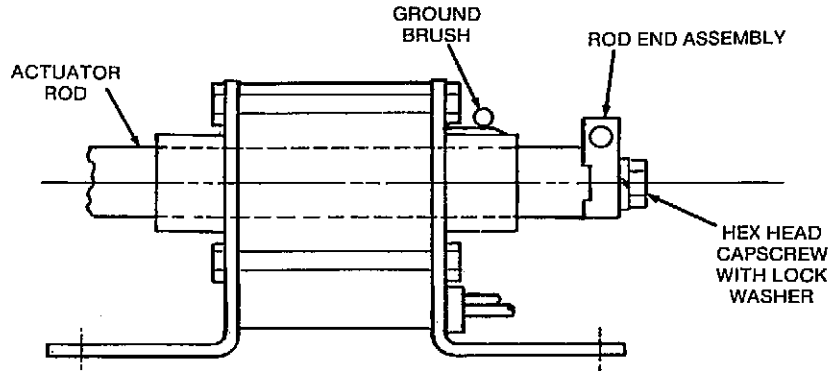

FIGURE 13. LINEAR ACTUATOR
8. Remove rod end assembly from actuator rod (see Figure 13) and slide rod out of the actuator.
1. Insert the actuator rod into the replacement actuator motor from the side opposite the ground brush (see Figure 13). Install the rod end assembly and tighten cap screw to 130 to 135 in-lbs (14.7 to 15.3 N•m).